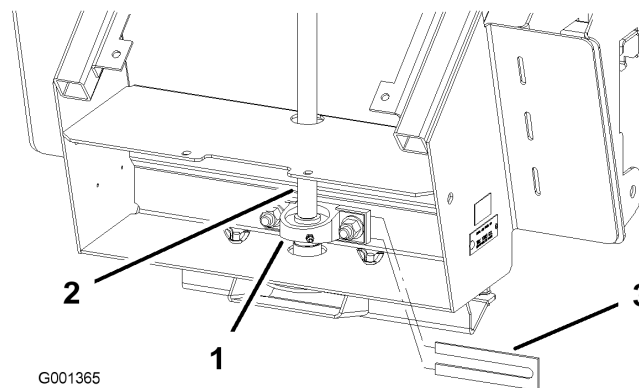

Figure 23
- A. Loosen the 2 nuts on the lower fan shaft pillow block (Figure 23).
- B. Insert a spacer behind the pillow block (Figure 23).